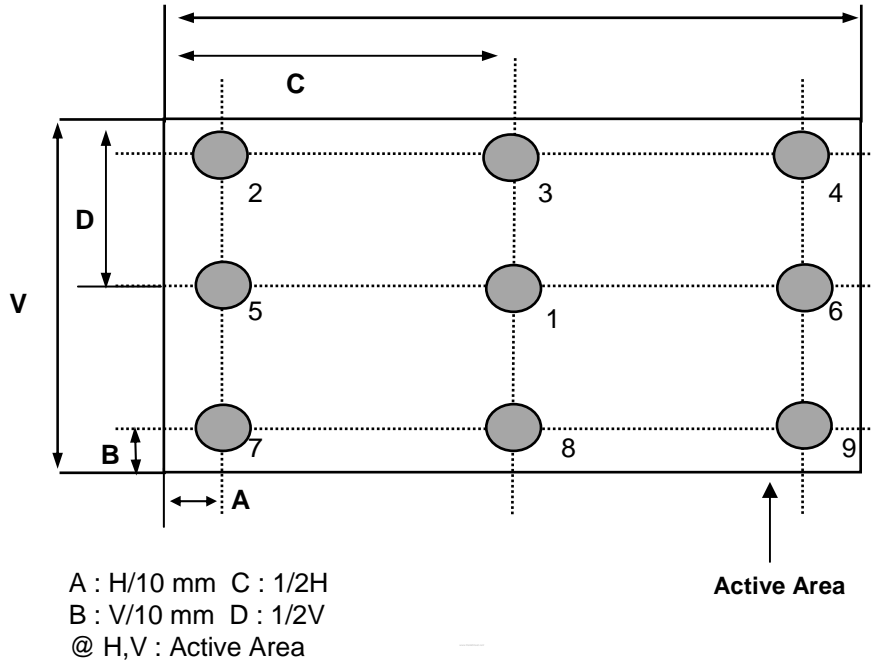

FIG. 2 Measure Point for Luminance
2. Surface luminance is luminance value at center point(1) across the LCD surface 50cm from the surface with all pixels displaying white. For more information see FIG 2.
For more information see FIG 2.